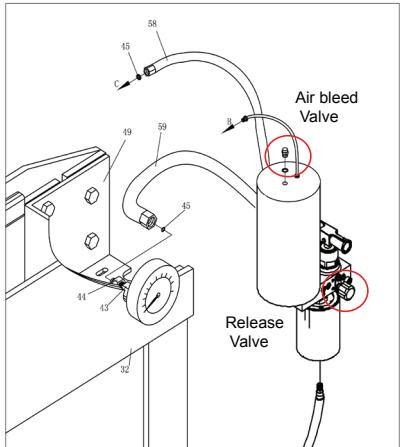
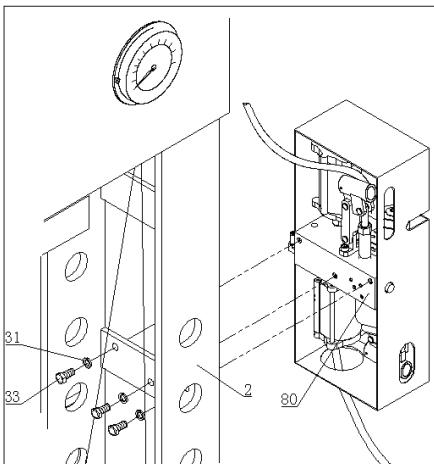

Fig.07
Fig.09
- Move the pump assy, Fig.07 ( WP75P ), Fig.09 ( WP100P ), to the outside of the post, use bolt and washer which dismantled just now to twist tight on the right connecting plate .
- Open the release valve, by turning it in an anti-clockwise direction, and open air bleed valve, Fig.07.
- Close the release valves, Fig.07, by turning it clockwise until it is firmly closed.